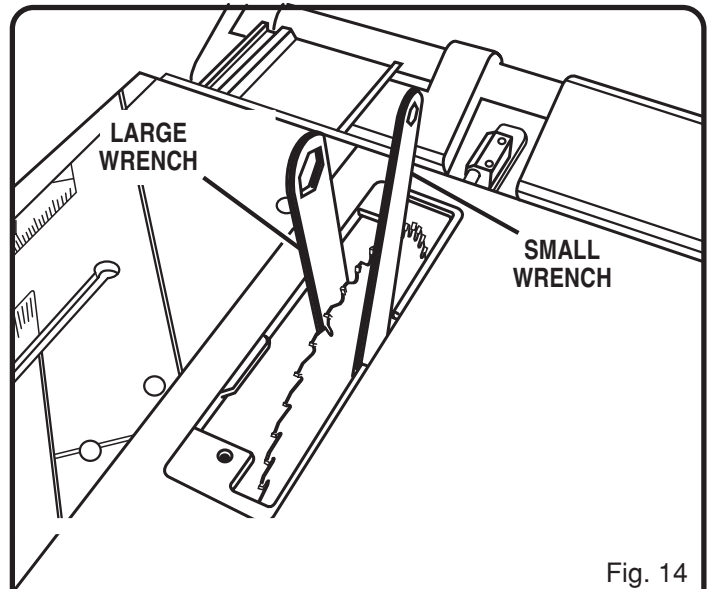

Fig. 14
- To check the saw blade, first lower the blade and remove the screw holding the throat plate in place. Remove the throat plate. *See Figure 14.*